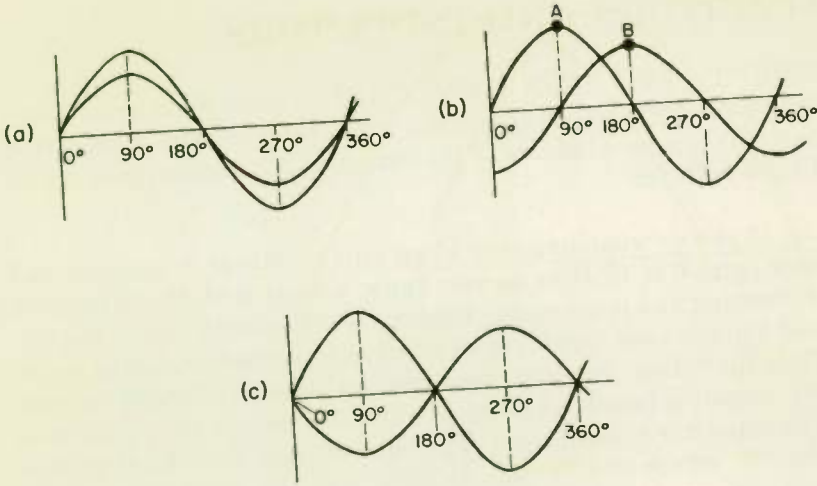

Fig. 13 Sine waves 0°, 90°, and 180° out of phase.
Figure 13 shows some examples of sine waves out of phase. The two waves of Fig. 13(a) are in phase and have a phase difference of 0° . When the two waves are 90° out of phase, as in Fig. 13(b), the peak value of one wave occurs at the points where the other wave is zero. When two waves are 180° out of phase, as in Fig. 13(c), the positive peak of one wave occurs at the same point as the negative peak of the other. By learning the three cases of 0° , 90° , and 180° phase difference, you can easily estimate any phase angle in between.
1. In Fig. 13(b) wave B ^(a) *(leads)* *(lags)* wave A because the fluctuations of B occur ^(b) _____ than those of wave A.